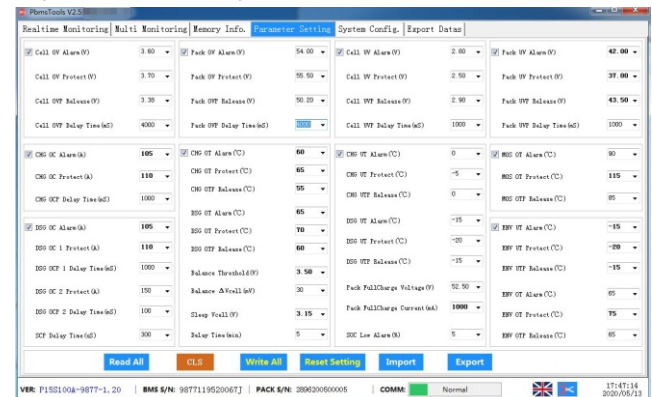

Figure 17: Parameter Settings
(5) In the Parameter Settings (As shown figure 17), this page shows the BMS parameters.